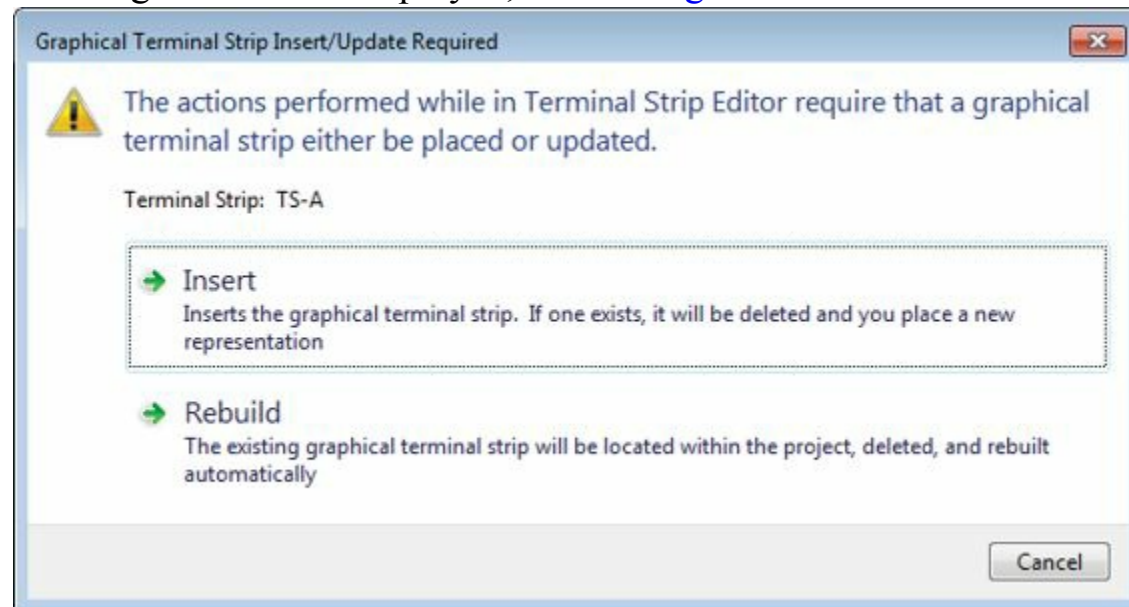

Figure-27. Graphical Terminal Strip Insert or Update Required dialog box
- After specifying the desired parameters click on the **OK** button from the dialog box. If you have changed the graphical parameters then the **Graphical Terminal Strip Insert/Update Required** dialog box will be displayed; refer to Figure-27.